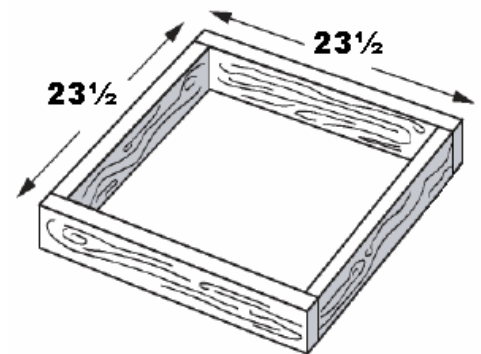

Fig. 1 - Building the Curb Box
**Step 5 - Building the Curb Box:** Build a 23 ½" x 23 ½" curb box using a weather treated 2x4 stud (see Fig. 1). The curb box should easily fit inside the curb-mount flashing of the attic vent base.